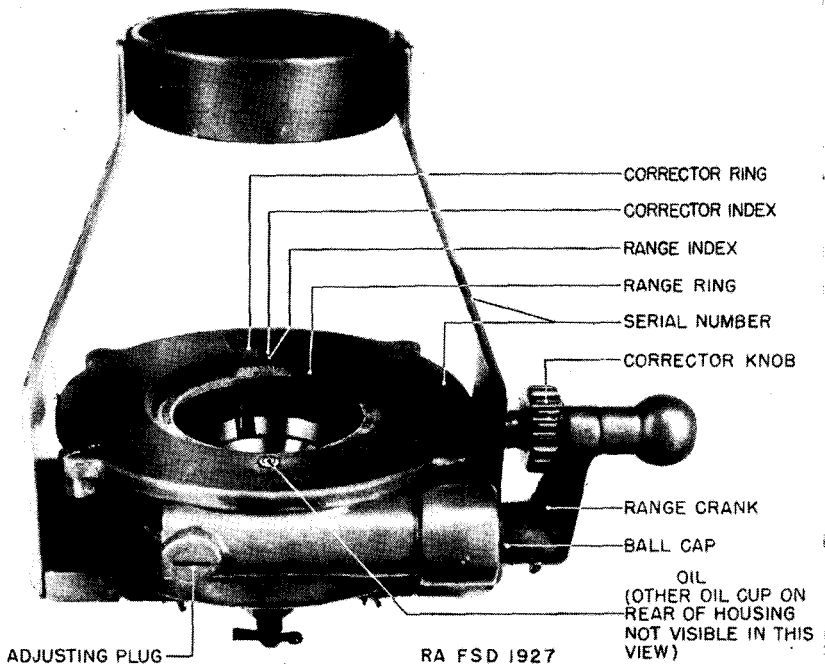

FIGURE 59.—Bracket fuze setter, M1916.
**55. Setter, fuze, bracket, M1916.**—This fuze setter (fig. 59) is used for setting the 21-second fuze, M1907M. It is furnished complete with cover.
*a. Operation.*—(1) Check to see that range ring corresponds to the gun and ammunition in use. This information is engraved on the range ring.